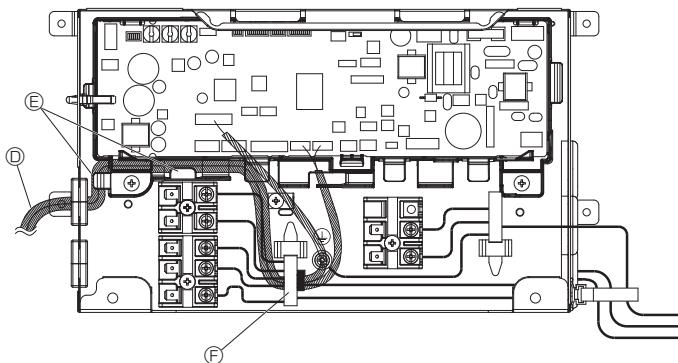

Fig. 5-8
2. Place the lead wire of the optional VALVE KIT inside the electrical box. (Fig. 5-8)